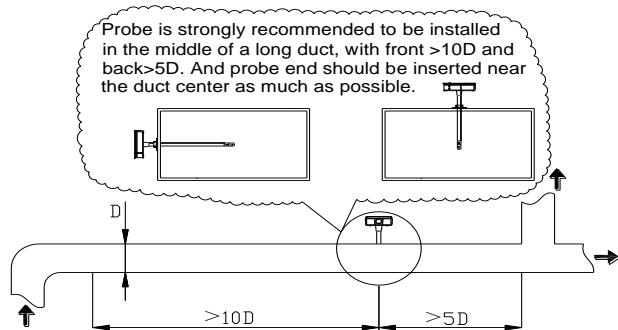

Fig 1
(1) The air velocity probe should be installed in stable air flow. It should be installed in the middle of a long duct, with front >10D and back >5D, as Fig 1 below. And try to insert the probe end (location of the sensor) near the duct center as much as possible.